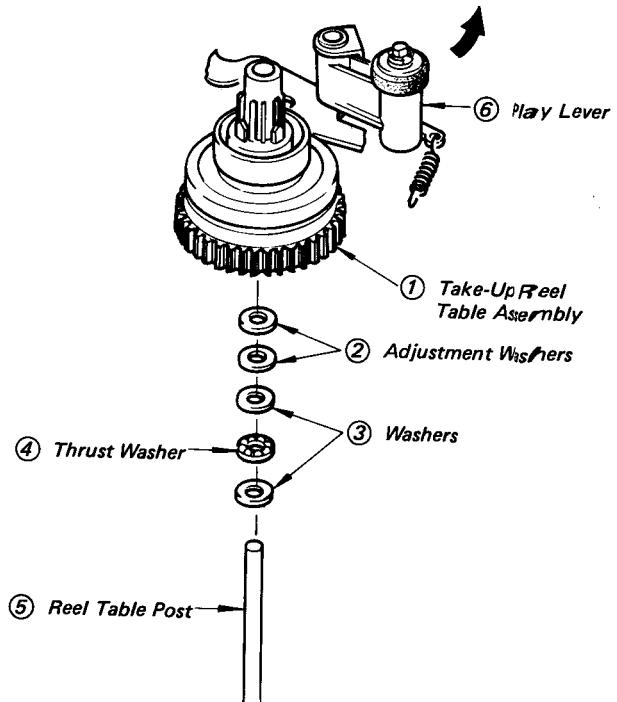

Fig. 5-43 Take-Up Reel Table Assembly Removal
6. Turn and hold the play lever ⑥ in the arrow direction ( $\curvearrowright$ ) in Fig. 5-43.
7. Lift the take up reel table assembly ① straight up. (see Fig. 5-43).
8. Take out any of the adjustment washers ②, washers ③, and thrust bearing ④, if stucked by oil, from the bearing of the take up reel table assembly ①.
9. Wipe the reel table post ⑤ to clean using isopropyl alcohol.
10. Wait for the reel table post ⑤ to dry, and then apply a few drop of oil to it.
11. Reassemble the take up reel table assembly ① by reversing Steps 1 through 10.